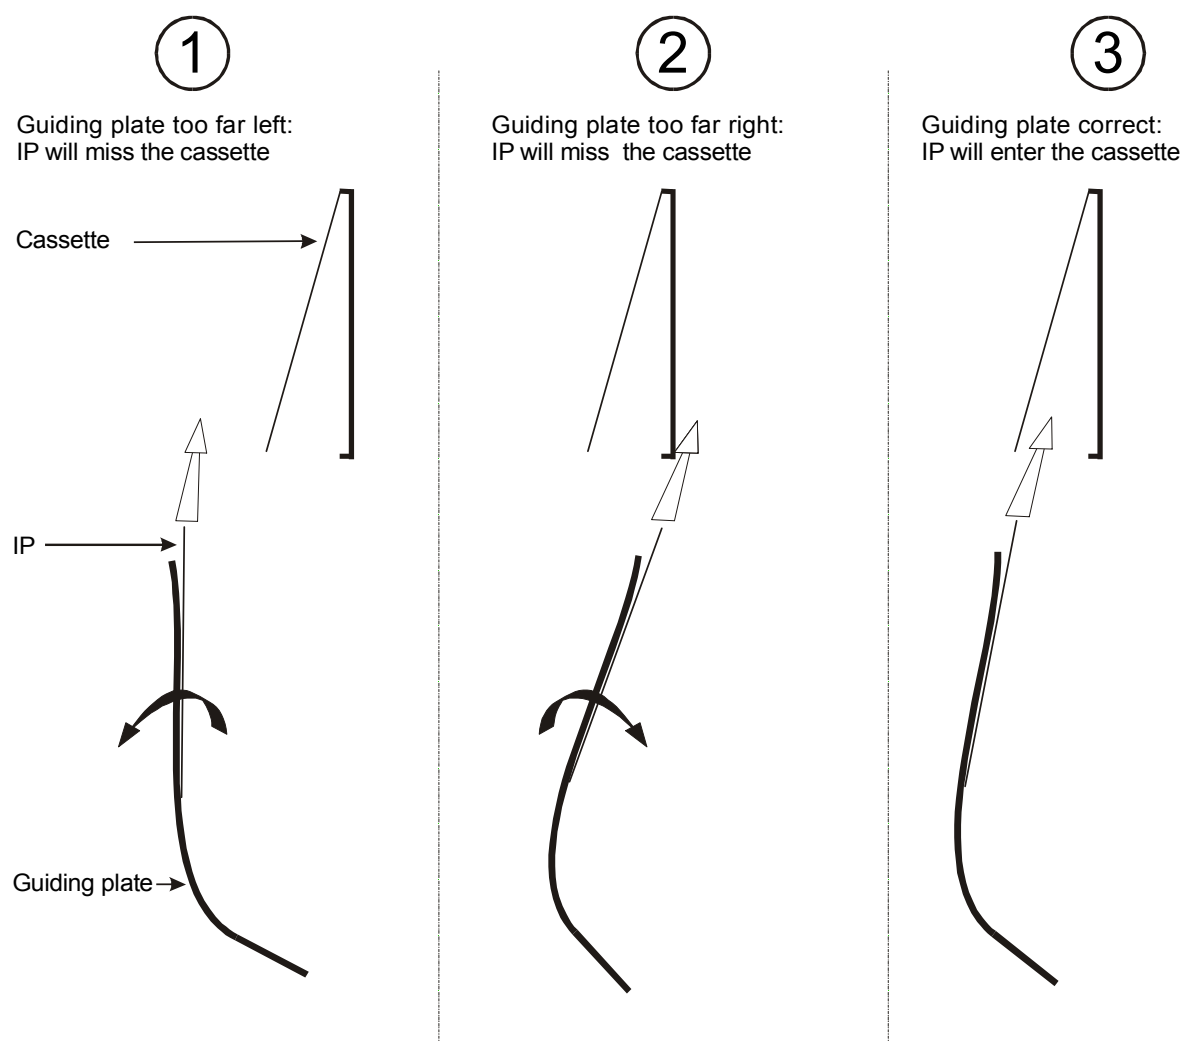

Figure 5
- (1) Move the transport unit out of the chassis as far as possible.
- (2) Loosen a little the four screws of the ledge that holds the guiding plate **1**. Two at the front end and two at the back end of the ledge. The screws at the back end are loosened best with an open-end wrench (7mm).
- (3) Put the suction cups of the robot carriage in upward position **2**.
- (4) Move the robot carriage manually upwards to the very top **3**.
- (5) During the last 10 cm of the upward movement the space between the white plastic gearwheel and the guiding plate has to be examined (see Figure 5).
- (6) While the robot carriage is being moved to the very top the plastic gear wheel **A** comes very close to the guiding plate **B**.
- (7) When the plastic gear wheel reaches the closest point to the guiding plate, the space should not exceed 1 or 2 mm.
- (8) If the guiding plate touches the plastic gear wheel, touch the bottom ledge of the guiding plate **1** and move the guiding plate away from the plastic gear wheel.
- (9) If the space between guiding plate and plastic gear wheel is more than 2 mm, touch the bottom ledge of the guiding plate **1** and move the guiding plate towards the plastic gear wheel.
- (10) When the perfect space is reached (1 or 2 mm), fix one screw at the front of the ledge and check the distance again.
- (11) If the space is different to 1 or 2 mm, readjust the guiding plate.
- (12) Repeat readjustment until the screws are fixed and the perfect space is reached.
- (13) Move the IP transport unit back in its work position.